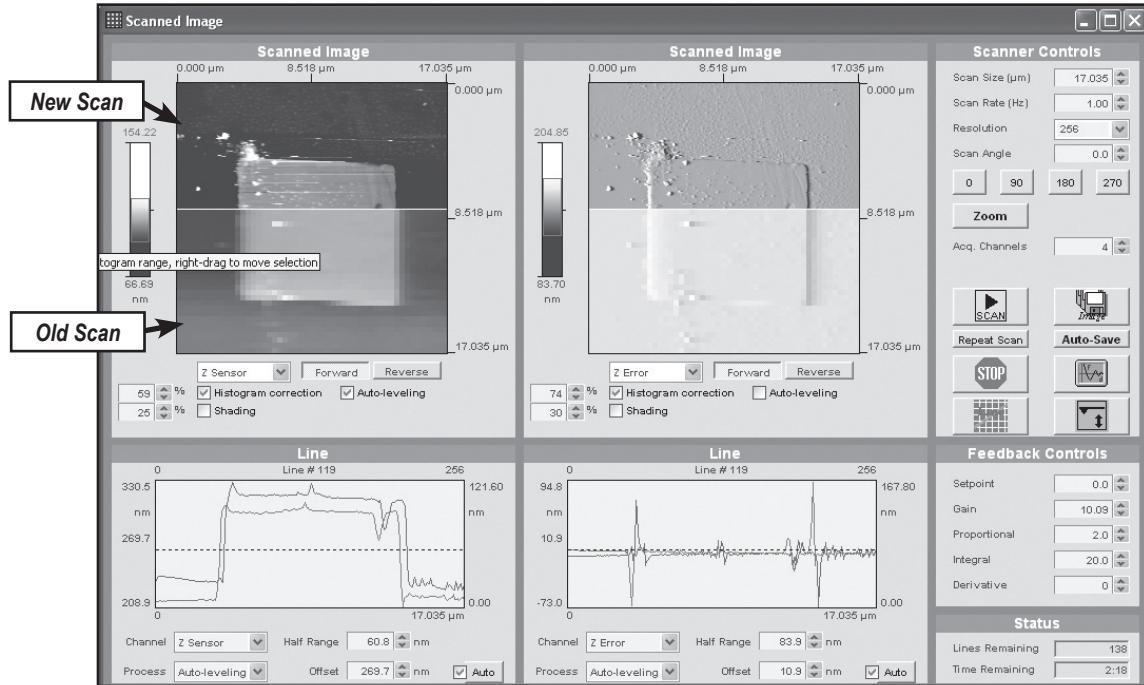

Figure 2.41: Acquiring smaller scan size
- c] Click the Scan button to take a new scan of the area or feature you have selected (Figure 2.41).